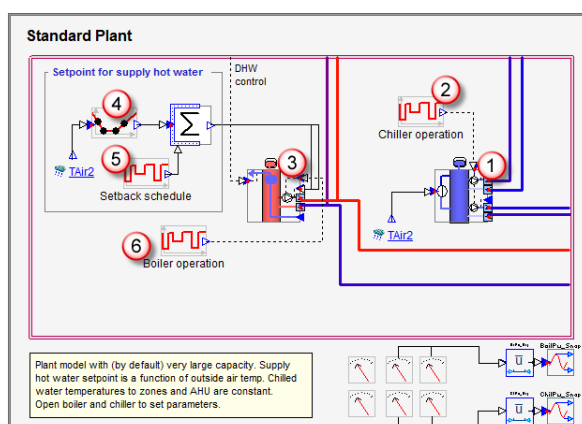

Figure 3.1 The primary system in the default configuration
In the default configuration, the primary system consists of seven components (designated 1-6 respectively in Figure 3.1): chiller (1) and a schedule (2) for its operation as well as a boiler (3), a controller (4) for hot water supply temperature and a schedule (5) for night setback operation. Also connected to the boiler is a schedule for its operation (6). The six energy meters in the lower right corner monitor energy consumption of various categories in the primary system.